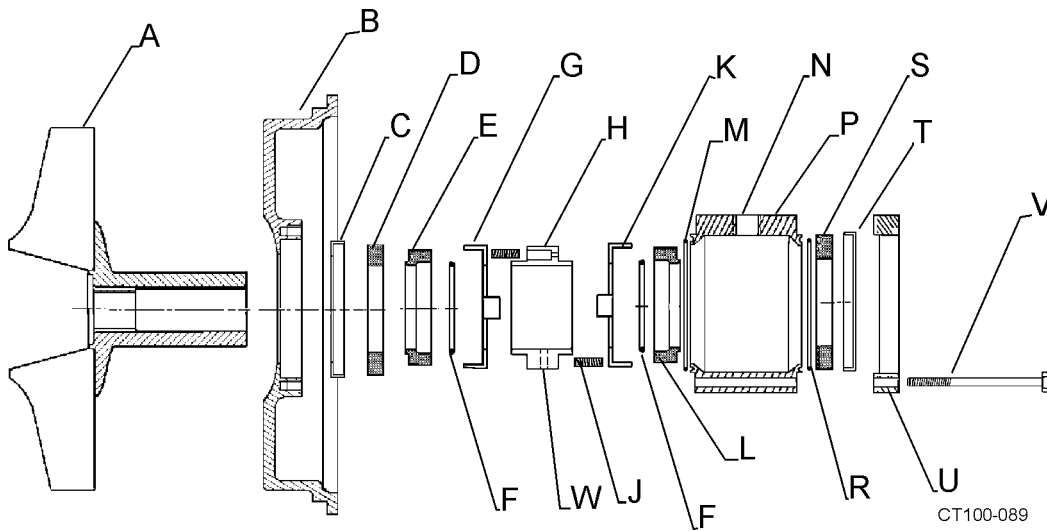

Figure 41 - Type 4 Seal Components
Table 12: Callouts for Figure 41
2. Install L-gasket in backplate. (Figure 41, items B and C).
3. Install L-gasket in seat retainer. (Figure 41, item T).
4. Install stationary seals (Figure 41, item S) in L-gaskets.
7. Place O-ring (Figure 41, item F) on shaft and use
8. Place washer (Figure 41, item G) over rotary seal with tabs in the outside diameter notches.
9. Place three springs (Figure 41, item J) in one side of spring retainer (hold them in place with silicone sealer) and slide the spring retainer (with the springs down) onto impeller shaft against washer.
10. Place the remaining three (3) springs in the spring retainer.
11. Slide the washer and O-ring (Figure 41, items K and F) onto the shaft against the spring retainer.
13. Remove 1/4 NPT plug from center port on flush housing. (Figure 41, item N).
14. Install an O-ring (Figure 41, items R and M) in both ends of housing.
15. Install L-gasket in seat retainer. (Figure 41, items T and U).
16. Install stationary seal (Figure 41, item S) in L-gasket.
18. With flush ports facing away from the backplate place seat retainer (Figure 41, item U) on housing.
19. Tighten seat retainer in place with four (4) hex screws (Figure 41, item V).
24. Tighten set screws in the spring retainer through 1/4 NPT center port in flush housing. (Figure 41, item N).